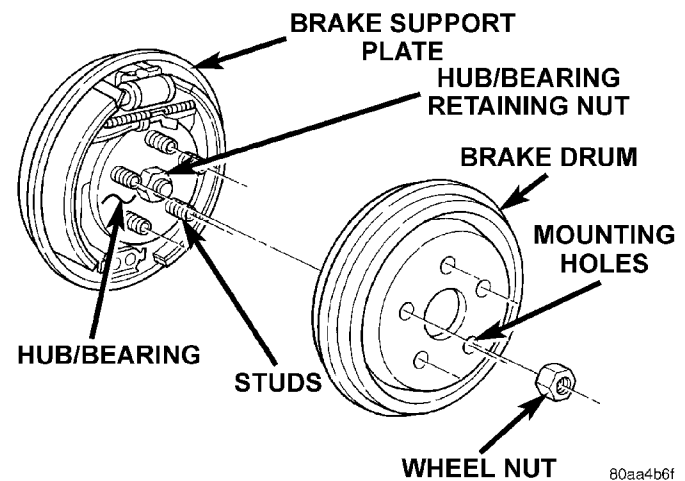

Fig. 78 Brake Drum And Hub/Bearing
(1) Raise vehicle on jackstands or centered on a hoist. See Hoisting in the Lubrication and Maintenance section of this manual.
(2) Remove the rear wheel and tire assemblies from the vehicle.
(3) Remove rear brake drum to hub retaining clips (if equipped).
(4) Remove rear brake drum from rear hub/bearing assembly (Fig. 78).